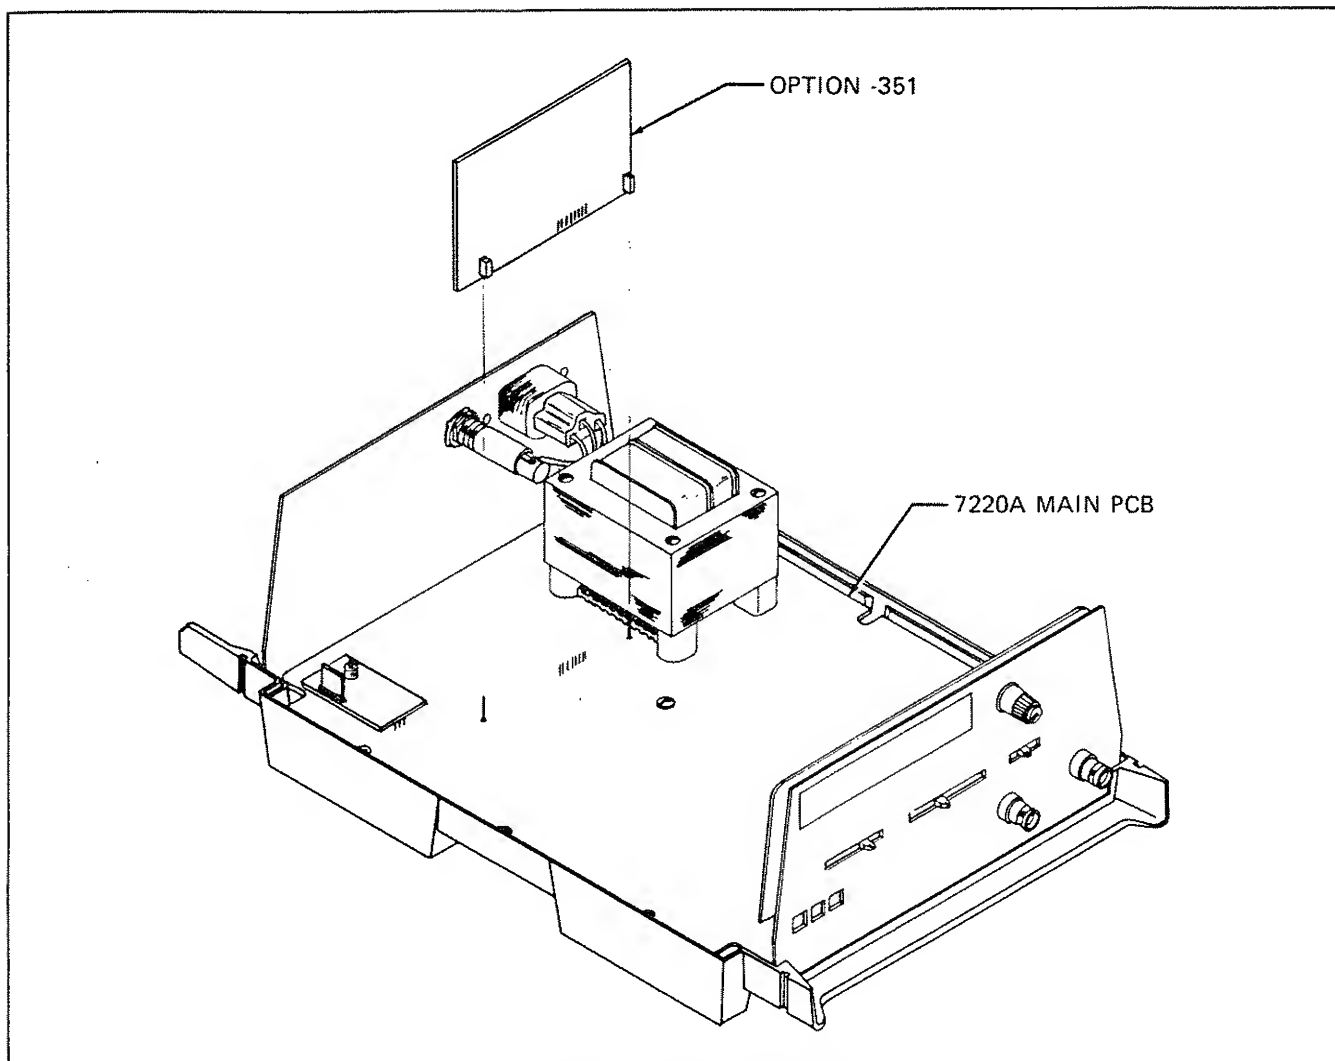

Figure 351-1. Option -351 Installation
2. Referring to Figure 351-1, orient the Option -351 PCB so the components are facing the front, and gently guide the PCB down over the two alignment rods mounted on the Main PCB so that the eight connector pins on the Main PCB are properly inserted into the eight connectors on the Option